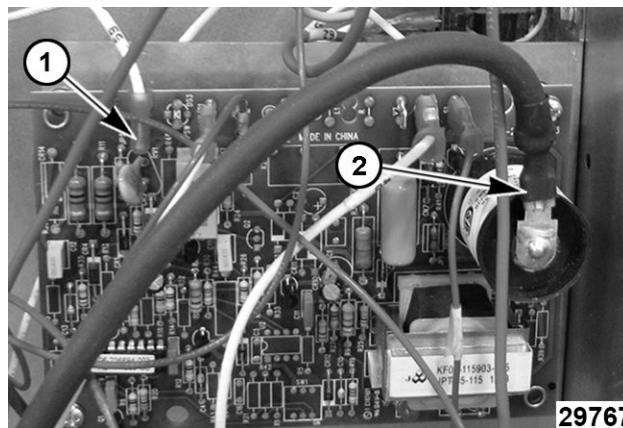

Fig. 18
- Disconnect lead wires (1, Fig. 18) and igniter cable (2, Fig. 18) from ignition module board.